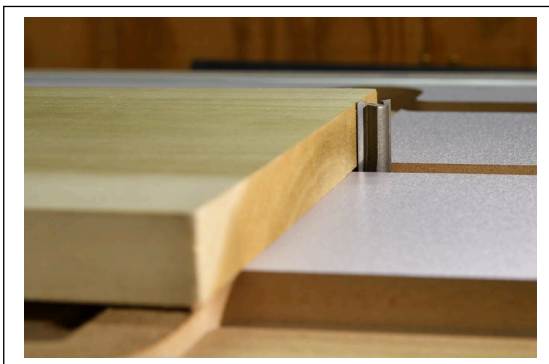

fig. 7
7. In your router collet, mount a straight or spiral router bit the appropriate diameter for the width box joint you will be making. Adjust the cutting height to thickness of wood that you will be joining together (See fig. 7).